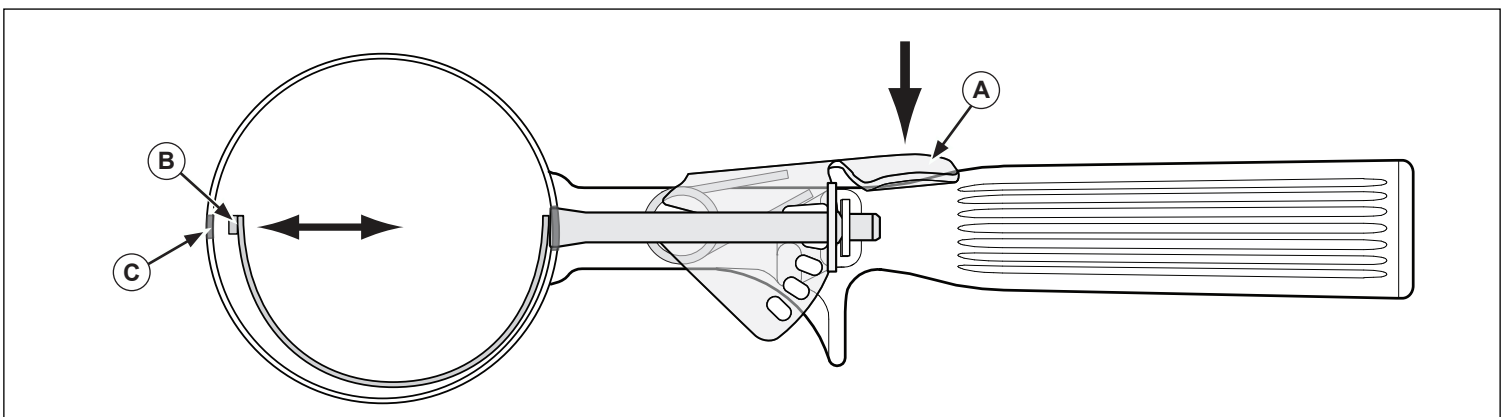

Figure 3. Disher and Bowl Hole
3. Continue to hold the gear rack (A) down. See Figure 3. Push the end of the blade (B) out of the bowl hole (C).
- Hold the gear rack (A) down. See Figure 3. Push the end of the blade (B) into the bowl hole (C).